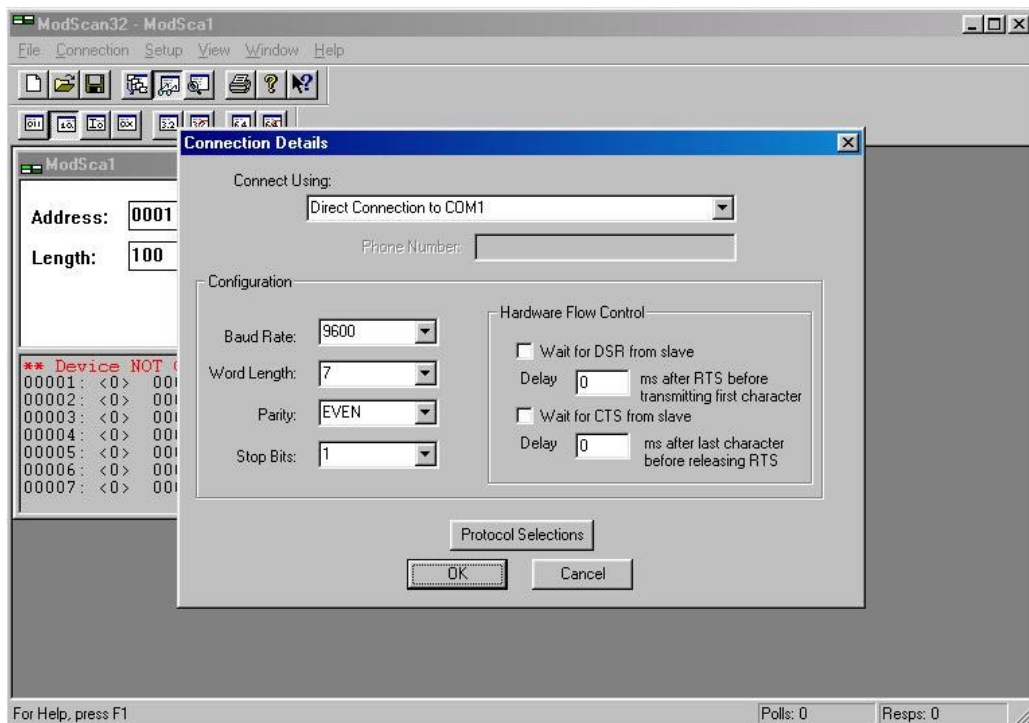

FIGURE 6. TP-78 NETWORK CONNECTION DETAILS DIALOG BOX
1. From the tool bar, select Connection → Connect. The Connection Details dialog box is displayed (see Figure 6). The Device Id is 1.
Configuration should be set to Baud Rate: 9600, Word Length: 7, Parity: EVEN, and Stop Bits: 1, as shown in Figure 6. Use the pull down menus to change these settings as necessary.